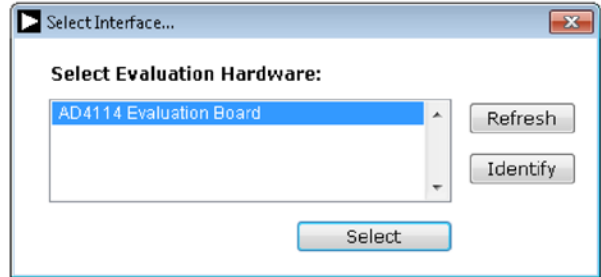
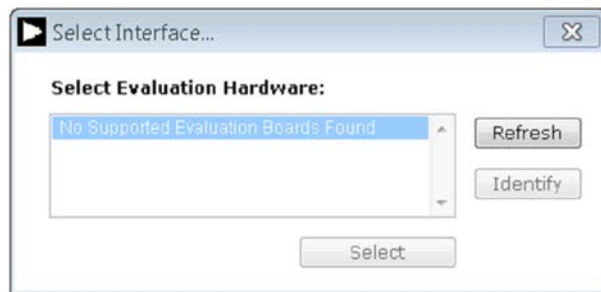

Figure 13. AD4114 Evaluation Board Selection
Figure 14. Evaluation Board Selection, No Board Connected
1. From the **Start** menu, click **Programs > Analog Devices > AD411x Eval+ > AD411x Eval+.exe**. The dialog box shown in Figure 13 appears. Select **AD4114 Evaluation Board** and the main window of the software shown in Figure 16 appears.
2. If the EVAL-AD4114SDZ is not connected to the USB port via the **SDP** when the software is launched, the software displays the dialog box shown in Figure 14. Connect the EVAL-AD4114SDZ to the USB port of the PC, wait a few seconds, then click **Refresh**, the dialog box shown in Figure 13 then appears.
After selecting **AD4114 Evaluation Board**, shown in Figure 13, the main window of the evaluation software displays, as shown in Figure 16. This tab shows the control buttons and analysis indicators of the **AD411x Eval+** software. The main window of the **AD411x Eval+** software in quick start mode contains four tabs: **Configuration**, **Voltage Waveform**, **Noise Table**, and **Histogram**.